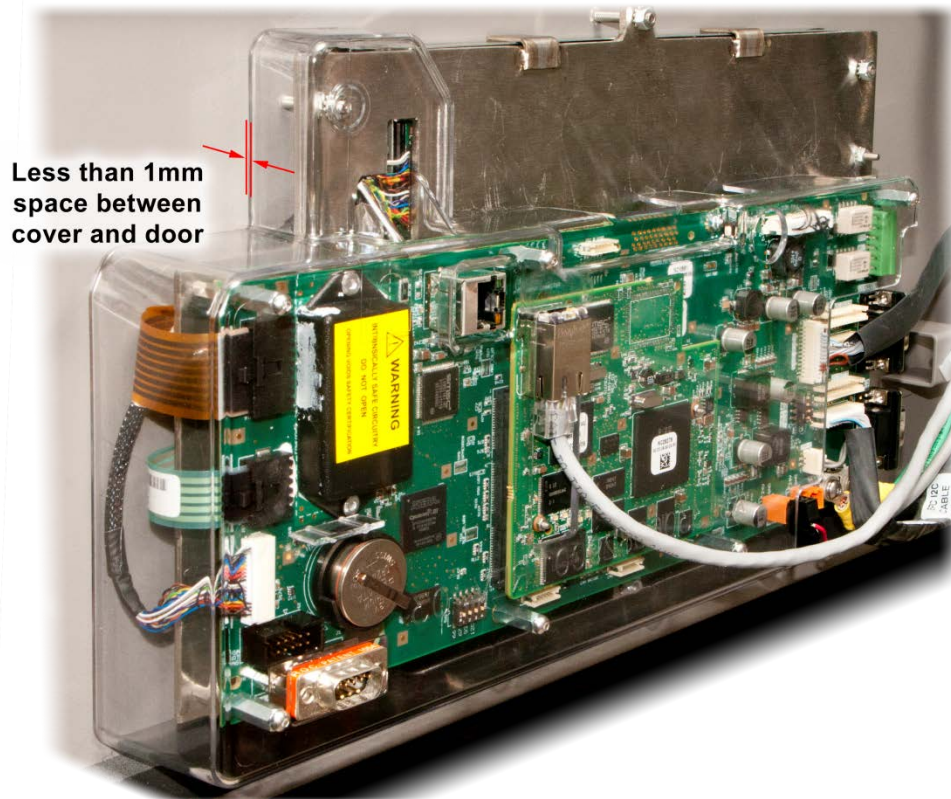

Figure 2: CIM Cover Installed On Door
12.	Ensure that the gap between the cover and the door is less than 1 mm as shown in Figure 2.